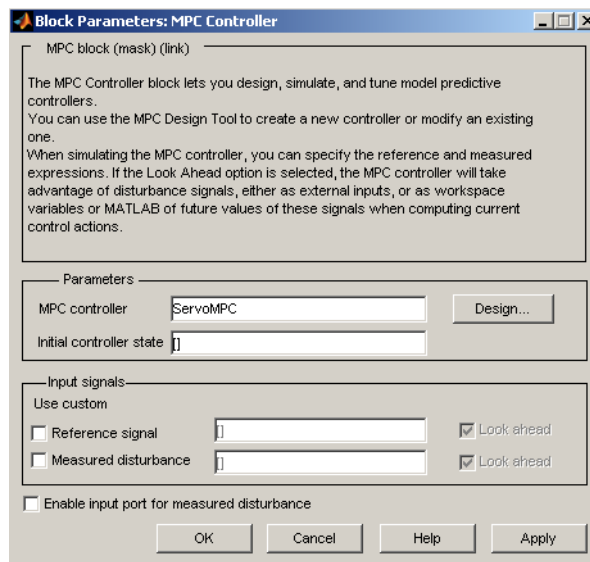

Figure 4-16: Model Predictive Control Toolbox Simulink Block Dialog
- MPC Controller is from the MPC Blocks library. Figure 4-16 shows the dialog box obtained by double-clicking on this block. You need to supply an MPC object, and `ServoMPC` is being used here. It must be in the Workspace before you run a simulation. The **Design** button opens the design tool, which allows you to create or modify the object. To review how to use commands to create `ServoMPC`, see “Constructing an MPC Object” on page 4-21.